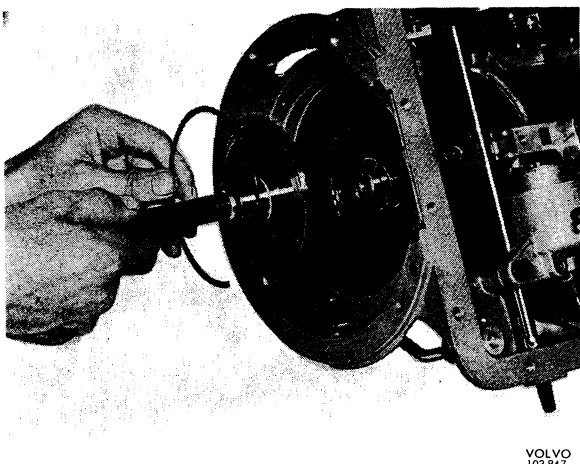

Fig. 4-106. Installation sequence, front clutch snap
19. Fit the pressure plate, inner and outer plates, and hub. Fit the thrust washer for the clutch hub and input shaft into the front clutch, see Fig. 4-106. Fit the snap ring.